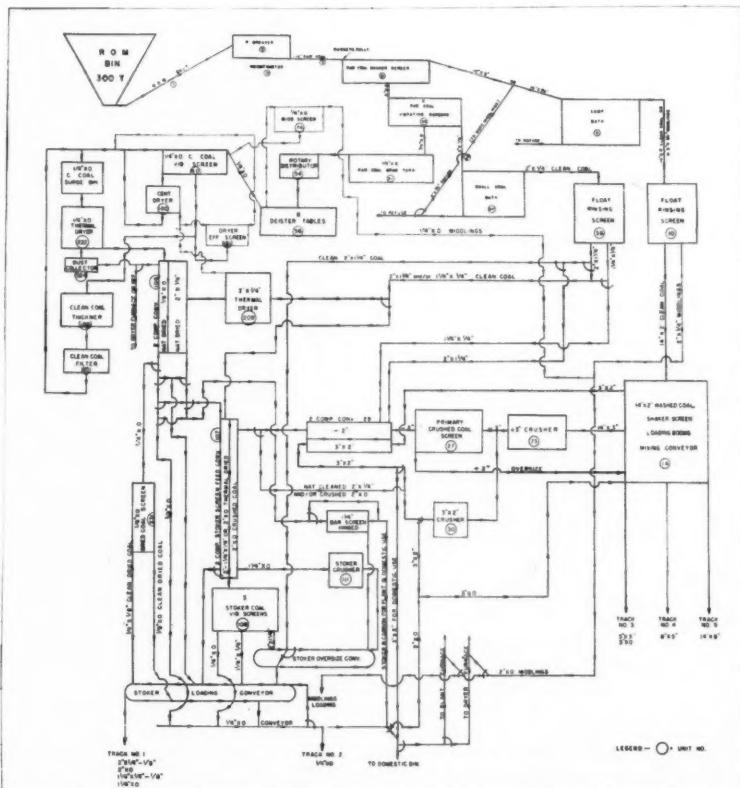

Fig. 2. Flow diagram showing the major preparation equipment at the Leatherwood No. 2 mine.
Simplified flow diagram in figure 2, shows the major preparation equipment in the Leatherwood No. 2 plant and gives a general picture of the coal flow. At this point, it might be of interest to note that the entire 14-in. by 0 feed is washed in the Leatherwood No. 2 plant and that, according to all available information, this represents the widest size spread in coal washing practice up to this time. Raw coal from the run-of-mine bin enters the plant, at a rate of 400 tph, through a 12 by 18-ft. McNally-Pittsburg rotary breaker (3)* in which the top size of the feed is reduced to 14 in. A unique feature of the rotary breaker in this plant is the
* Figures in parenthesis following each item of equipment mentioned in this discussion are Unit Numbers by which the various components may be located in Figs. 2 and 3. Units are identified as to size, type, model and manufacturer in Table 1.